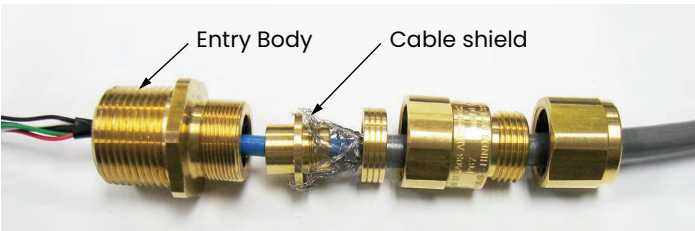

Figure 90: Proper cable Gland assembly (Panametrics p/n 419-217)
- d. Fray the braided shield and spread evenly around the cone as shown in *Figure 90* below. Compress the ring to lock the shield.
The cable shield must be terminated in the cable gland as shown in *Figure 90* below.
- d. Fray the braided shield and spread evenly around the cone as shown in *Figure 90* on page 64. Compress the ring to lock the shield.
The cable shield must be terminated in the cable gland as shown in *Figure 90* on page 64.